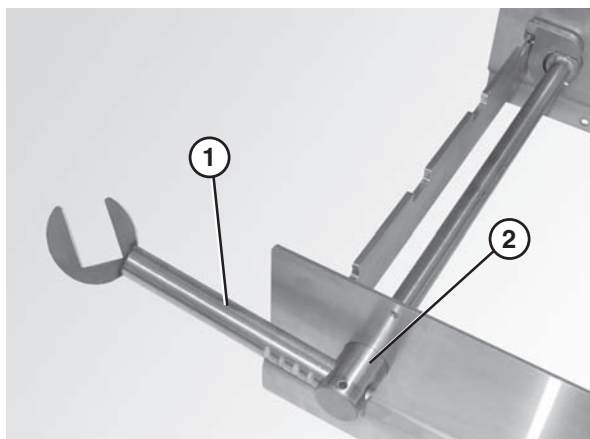

Figure 22
3. Attach the nose bar idler shaft hands (Figure 22, item 1) to the tip up shaft (Figure 22, item 2).